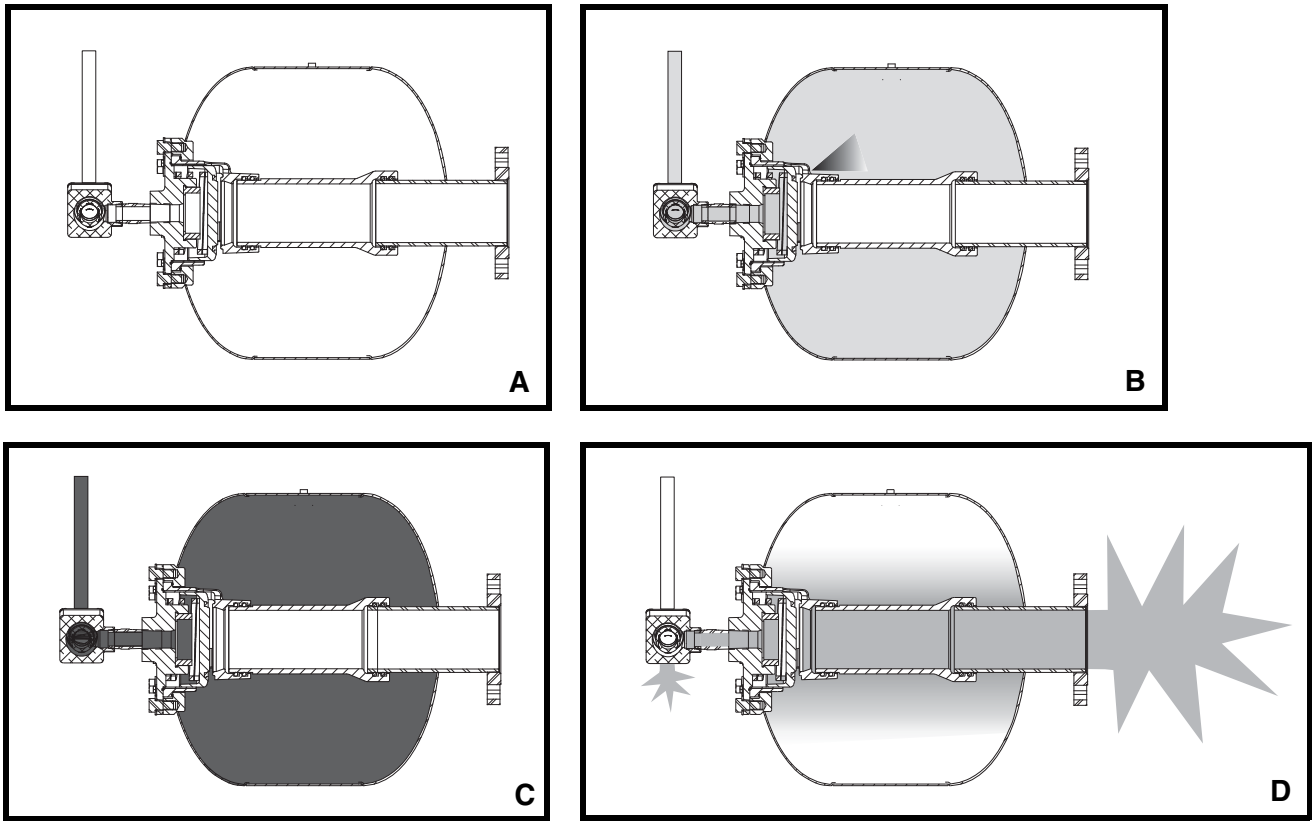

Figure 2. Air Cannon Charging and Discharging
The Martin[®] Typhoon Air Cannon System consists of one or more air cannons mounted on a storage vessel. The air cannon charges when the tank is filled with plant compressed air or nitrogen between 40 psi (2.76 bar) and 120 psi (8.27 bar) (A, Figure 2) that is controlled by a 3-way normally open solenoid valve. Air fed through the valve assembly-mounted quick exhaust valve (QEV) passes through the piston and into the tank (B). When tank pressure equals line pressure, airflow is static and the cannon is ready to discharge (C). By activating the solenoid valve, the air supply is shut off and the air line between the QEV and solenoid is emptied. This allows the QEV to quickly release the pressure holding the piston. The piston is instantly forced back by the pressure stored in the tank which then exits through the discharge pipe, releasing the energized air pressure stored in the tank. This blast of air is directed through the discharge pipe and into the storage vessel (D).